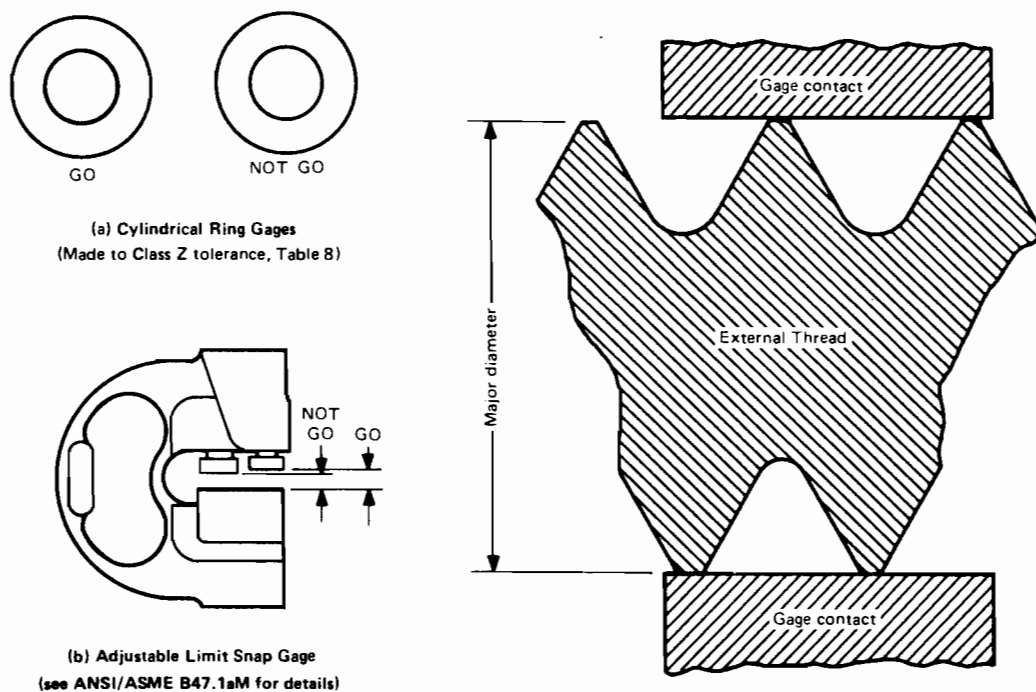

FIG. 24 MAJOR DIAMETER LIMIT
5.7.2 Design of Gage Blanks and Gages. Plain cylindrical ring blanks and plain progressive adjustable snap gages have been standardized for various size ranges (see ANSI/ASME B47.1aM and Fig. 24).